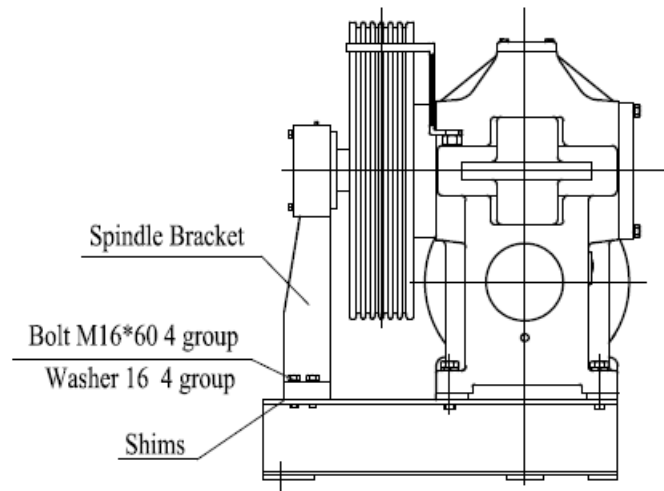

Figure 40 Traction Base
3. Remove the bolt M16x60 and the washers 16 (4 groups) which connect the spindle bracket and the traction base using the open end wrench (24mm). See Figures 40 and 41.